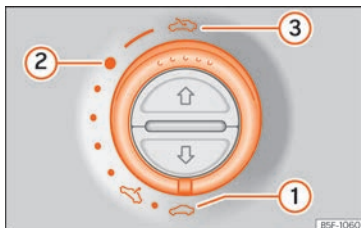

Fig. 15 On the internal cover of the roof: rotate the button to open and close.
- Open: turn the switch to position >>> Fig. 15 ③.
- Comfort position: turn the switch to position >>> Fig. 15 ②.
- Close: turn the switch to position >>> Fig. 15 ①.